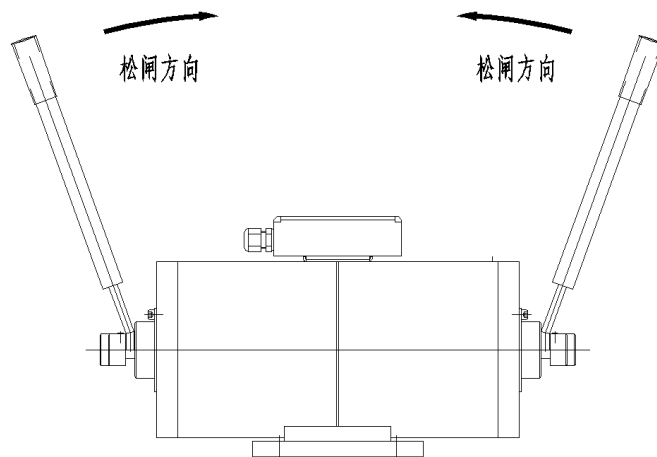

Fig. 1.8 Manual release
Step 3: The split magnetic actuator opens the brake by pressing the release handle inward (in the direction shown in Figure 1.8);